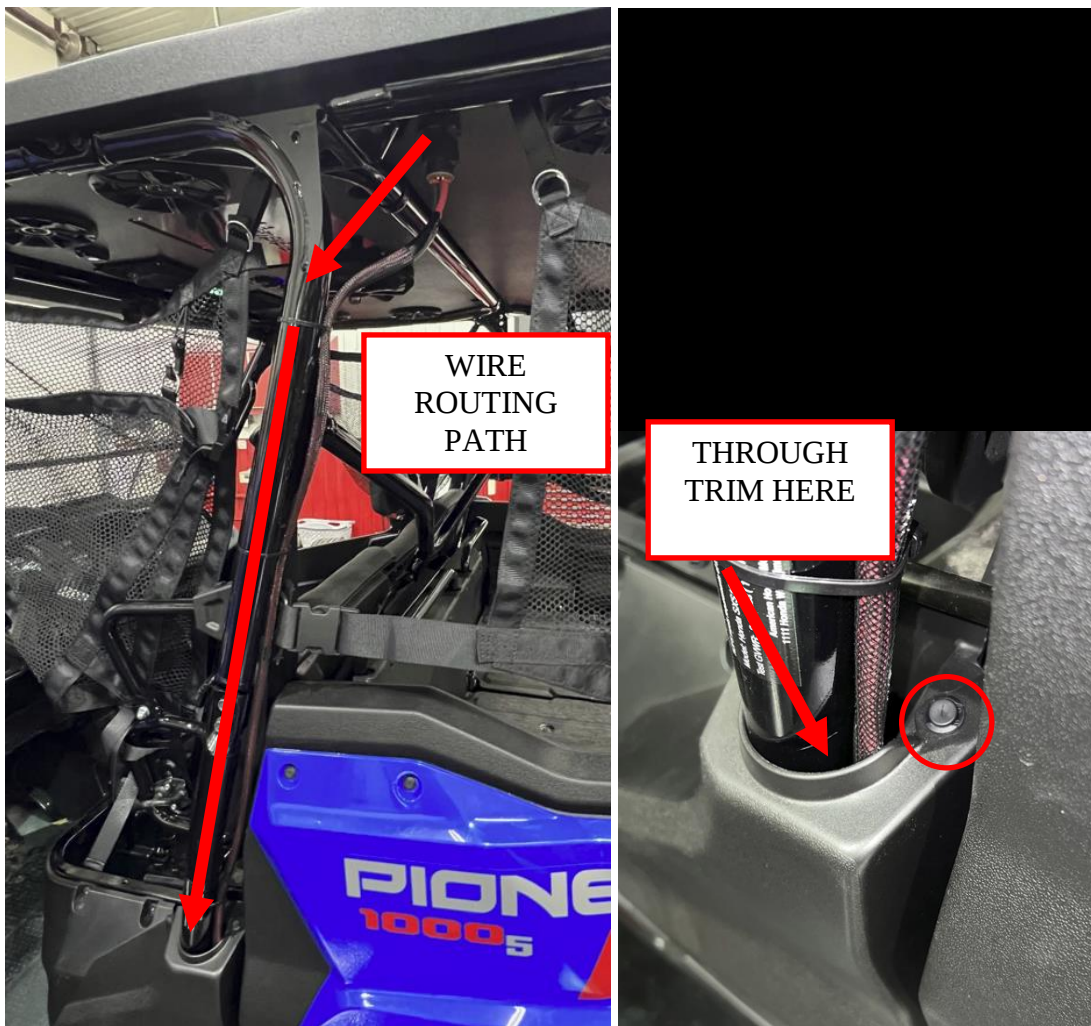

Figure 11: Route the battery cable wiring.
10. Route the chassis wiring harness along the down tube on the driver's side center chassis tube ("B pillar"). The ends with the battery terminals and relay block extend through the plastic trim, into the area under the driver's side seat. Note: The plastic rivet on the trim must be temporarily removed so the relay connector can fit through the opening. See Figure 11.